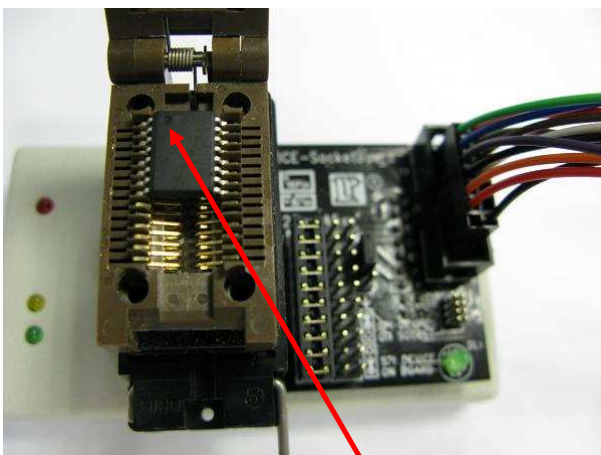

Figure 3.
3. SOP 16 Pin device: Use suitable SOP adaptor and refer to Figure 3 below